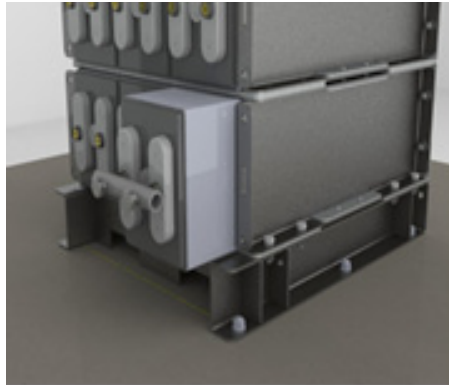

Figure 15 Cell Removal
8. Pull the cell straight out onto the platform, shown in Figure 15.